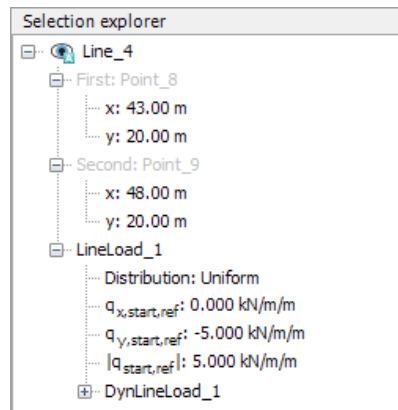

Figure 3–5: Components of the distributed load in the Selection explorer
- 4 In the **Selection explorer** assign a value of -5 kN/m/m to the y-component of the load ($q_{y,start,ref}$) as shown in Figure 3–5 \(p. 61\).